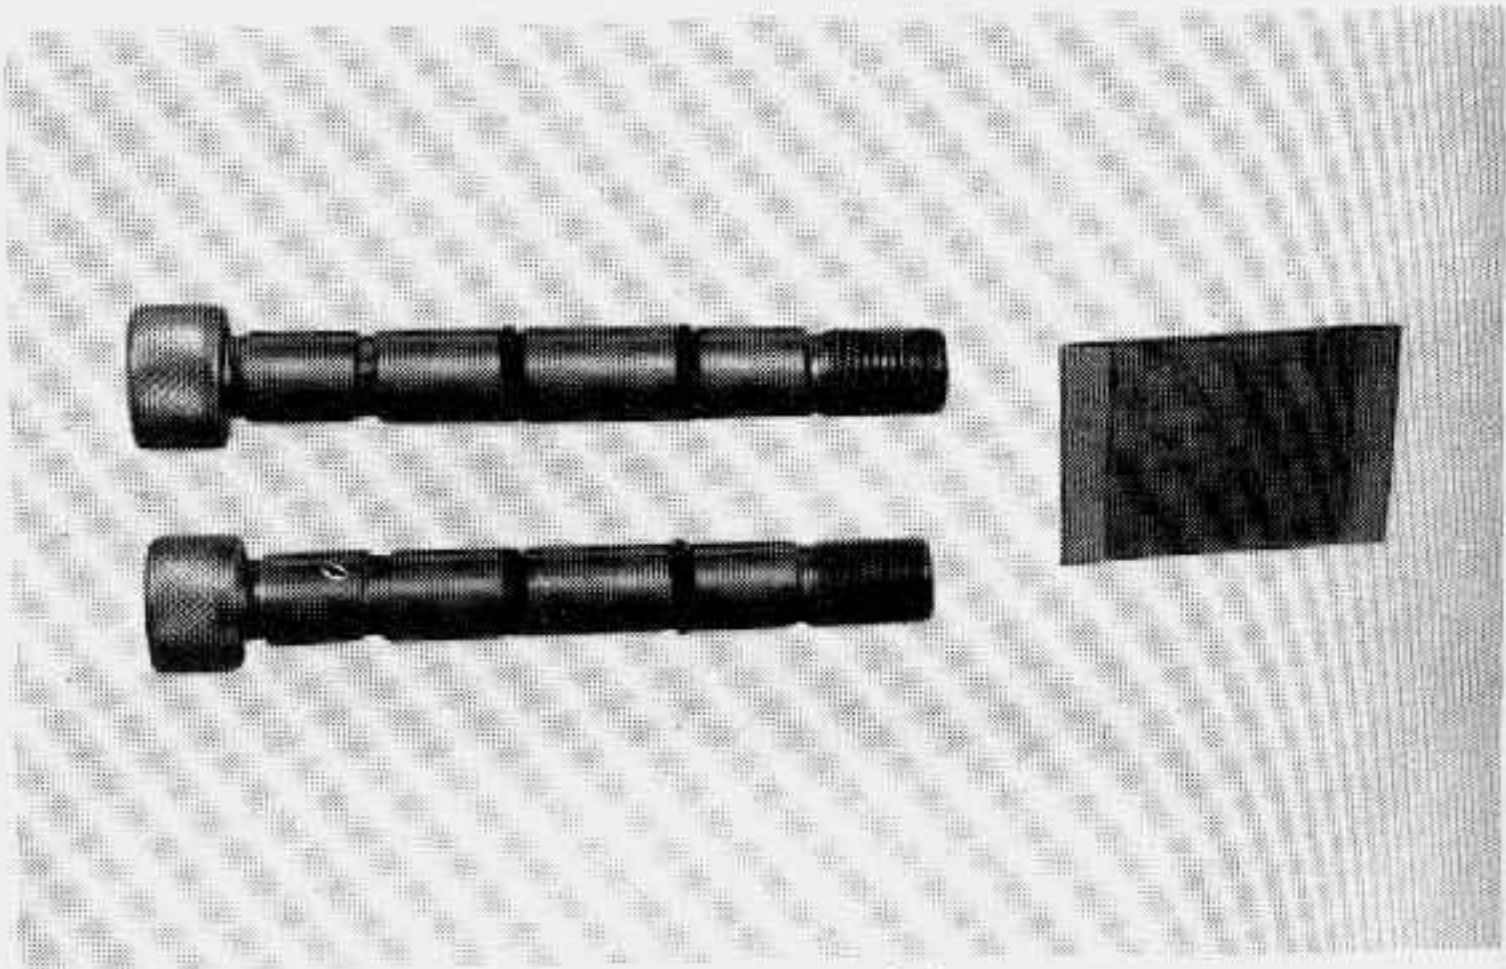

Fig. 8-2-28.
- a) Apply Suzuki Caliper Axle Grease with property of high heat resistance onto the caliper axle shown in Fig. 8-2-28.